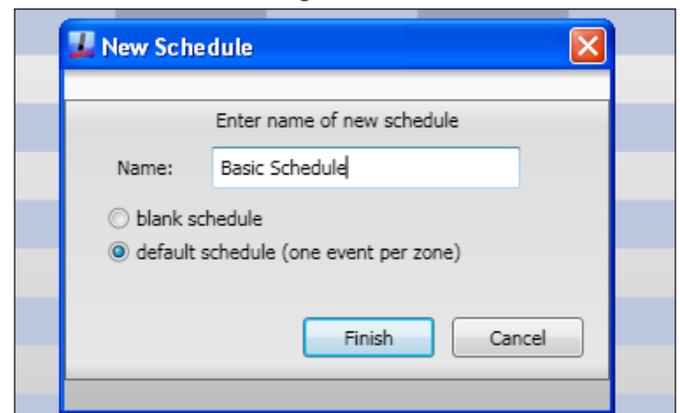

Figure 1.4
11. At the **New Schedule** dialog box (Figure 1.4), enter your preferred Schedule name.